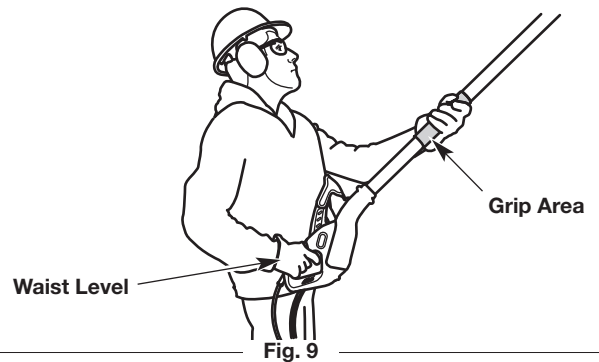

Fig. 9
- Hold the pole with the left hand. Keep the left arm straight. Always hold the pole in the grip area (Fig. 9).
- Hold the unit at waist level (Fig. 9).